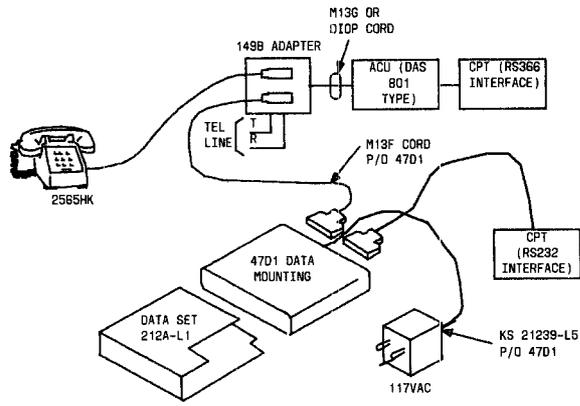
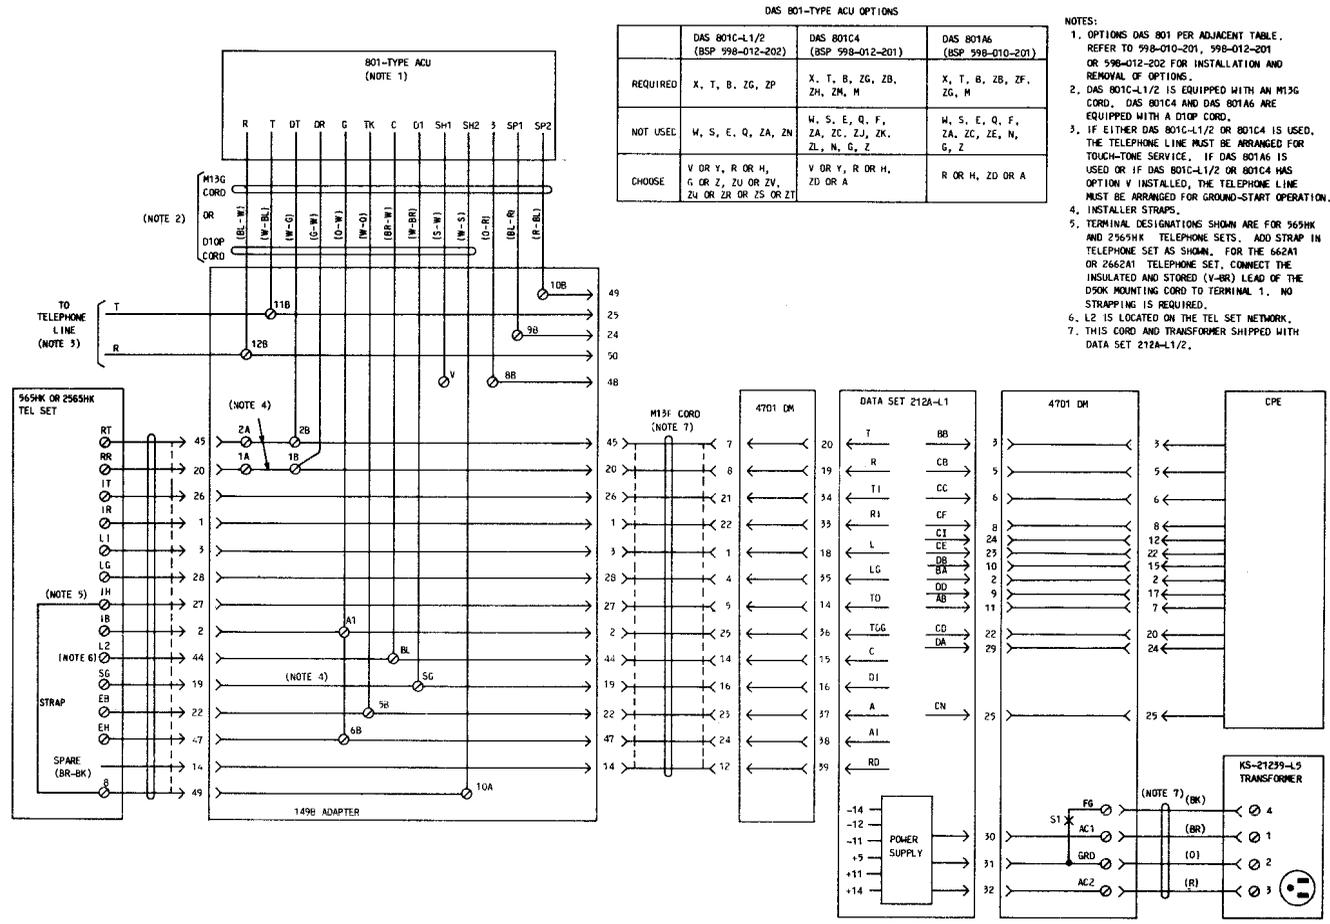
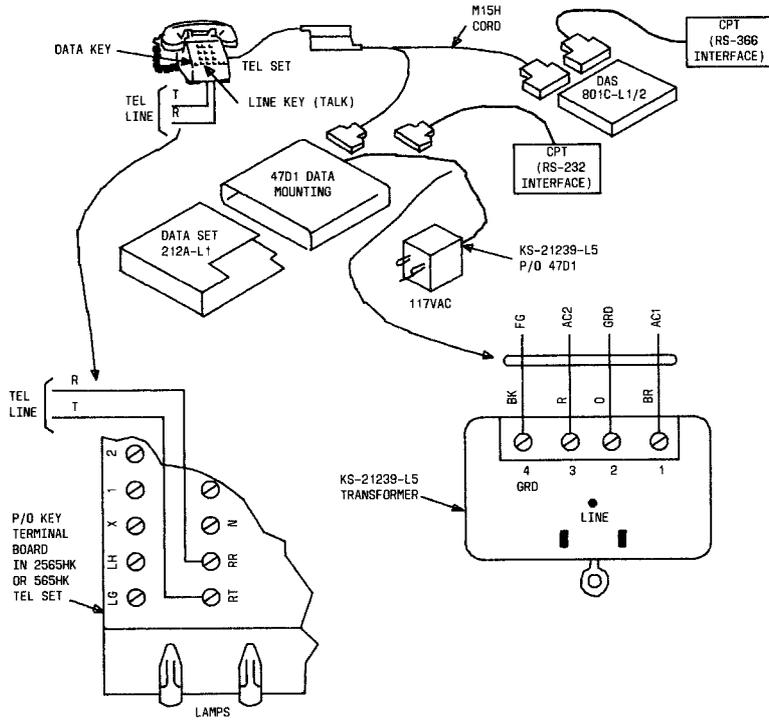

Fig. 6—Installation of DS 212A-L1/2 With an ACU
Fig. 7—Connection Wiring for DS 212A-L1/2 With an ACU
Fig. 8—Alternate Method of Installing DS 212A-L1/2 With 801C-L1/2 ACU
4.05 DS 212A-L1A/2A With ACU: When a single DS 212A-L1A/2A is installed with an ACU, connect cables and connect tip and ring as shown in Fig. 6. Figure 7 provides detailed wiring which may be useful in troubleshooting this arrangement. Figure 8 shows an alternate connection which requires an M15H cord (order separately).